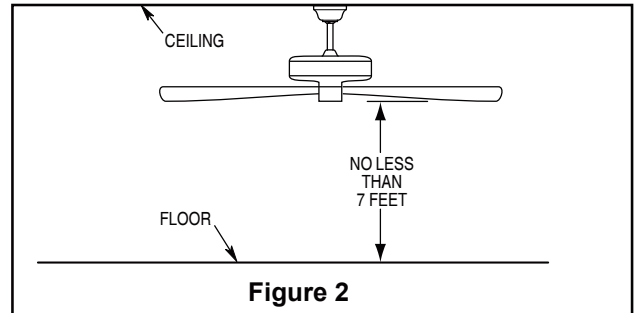

Figure 2
2. Remove the hairpin clip and clevis pin from the bottom of the downrod. Retain the pin and clip for reinstallation in Step 4. (Figure 2)
The fan must be hung with at least 7' of clearance from floor to blades. (Figure 2)